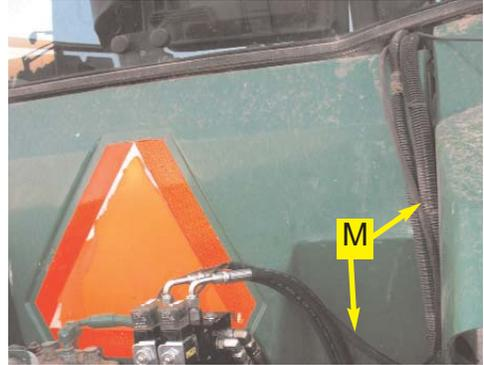

Figure 7a. Installed valve cable.
Route the valve control cable (M) from the Automated Steering Block into the cab through the access hole by the rear window. (Figure 7a.)